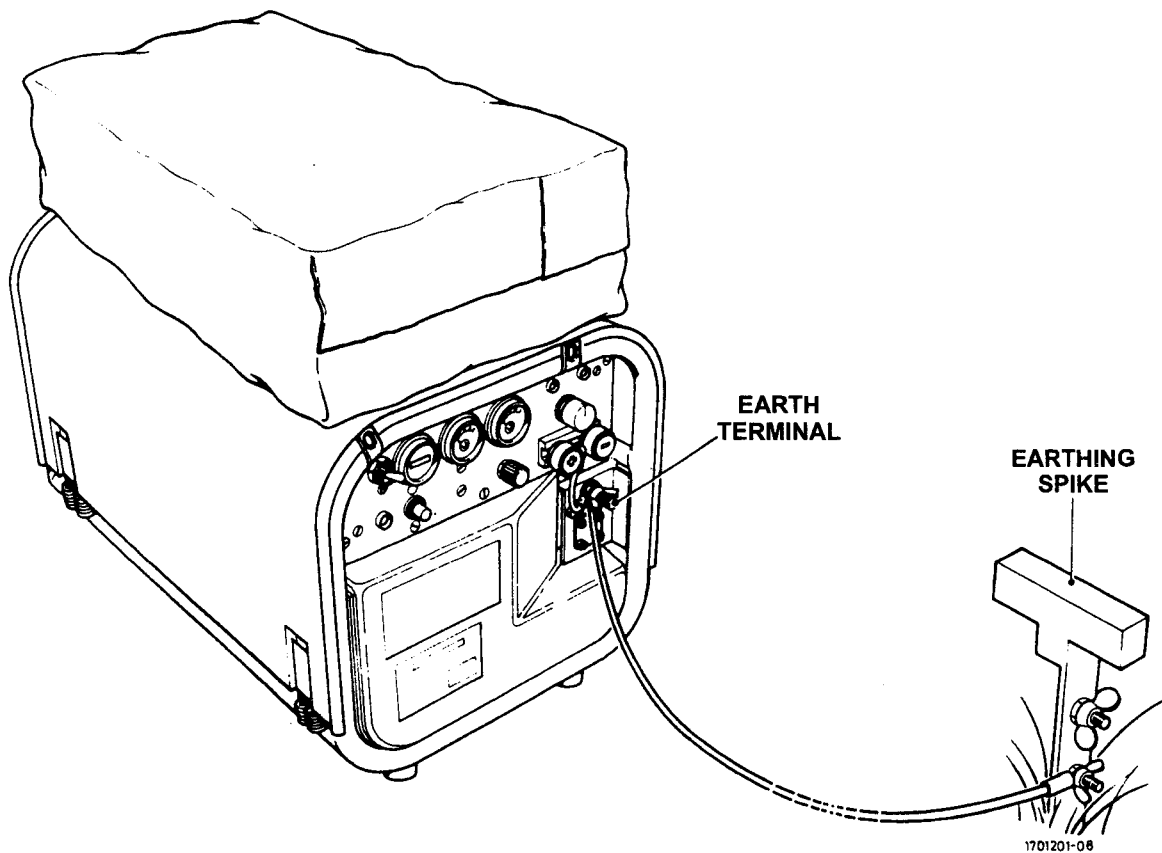

Fig 2 Earthing spike connections
5.2 Connect the earthing cable between the earthing spike and the generator set earth terminal (Fig 2).